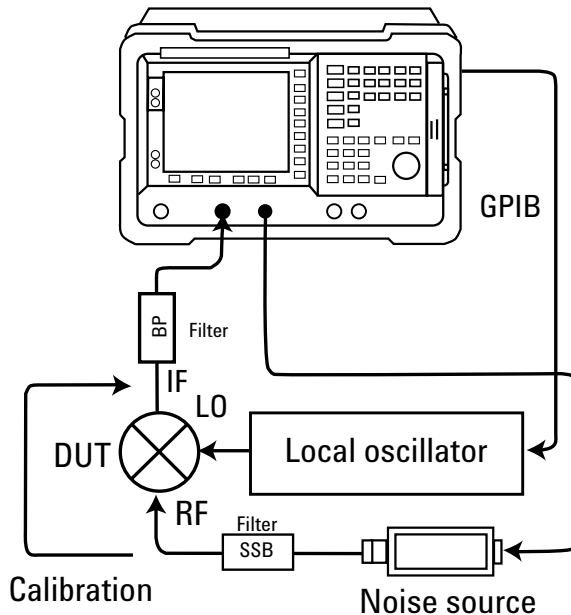

Figure 12. Variable LO and fixed IF with filtering
For this example the DUT is assumed to be a mixer, the LO is to be swept from 4.7 to 5.2 GHz, the IF is fixed at 1 GHz, the standard number of measurement points is 11, and LSB will be measured. The measurement setup is shown in Figure 12.
18. Connect the equipment as shown in Figure 12 (without the DUT).